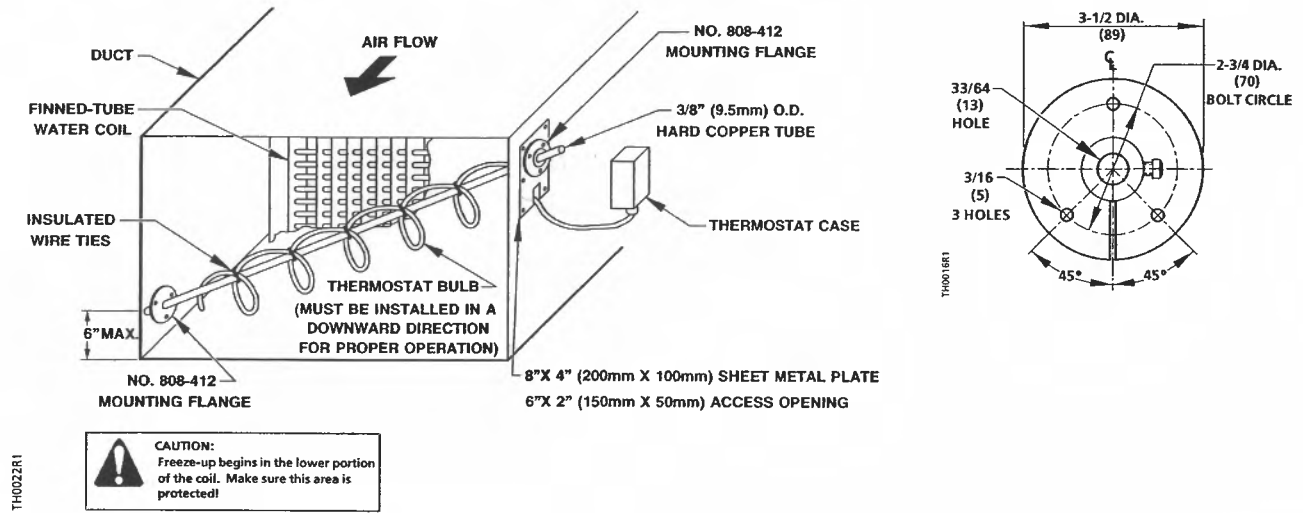

Figure 2. Bulb Mounting for Limited Access Ducts with 808-412 Mounting Flange.
### Limited Access Ducts (Figure 2)
4. Cut a length of copper tubing to fit diagonally across the duct. Stretch out the bulb and wrap it around the tubing. See *Figure 2*.